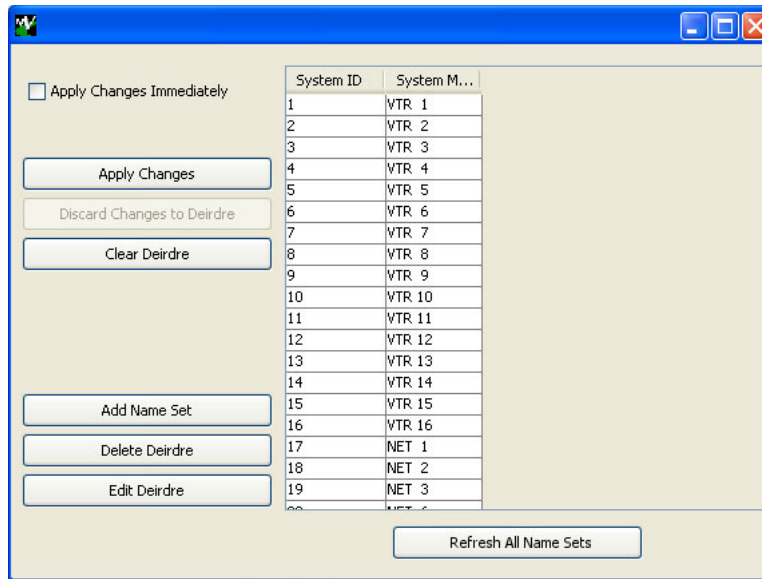

Figure 17-1. Name Sets Window
- 2 Right-click on the system controller you are currently working with and from the pop-up menu select 'Edit Name Sets'. The 'Name Sets' window appears, as shown in Figure 17-1. All name sets currently defined in the system are listed.